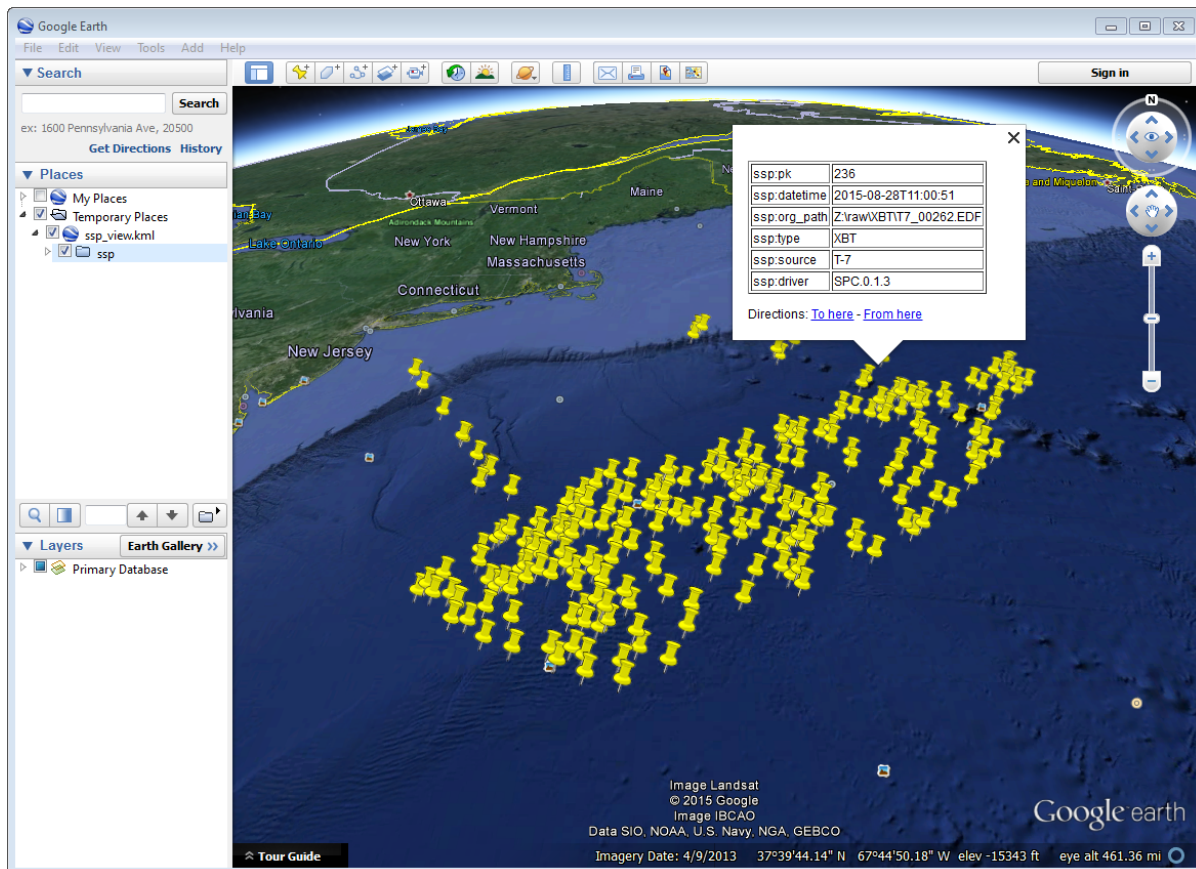

Fig. 2.52: Loading result of the exported metadata (kml format) in Google Earth.
- Export the profile metadata in several geographic formats: csv, kml, shapefile (e.g., Fig. 2.52), and